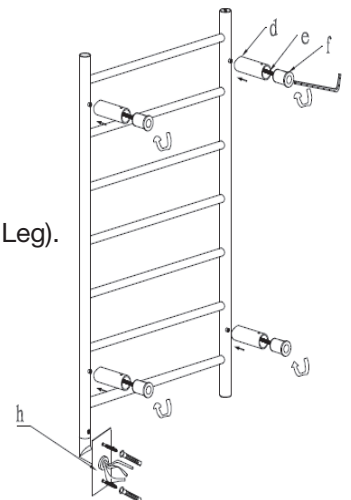

Figure 2
### Step 2: Installing metal wall legs (figure 2)
- o **g**: Set Screw (this part may already be installed inside the Metal Wall Leg) (see Figure 2).
- o Set Screw **g** is inserted in Metal Wall Leg **d** (see Figure 2).